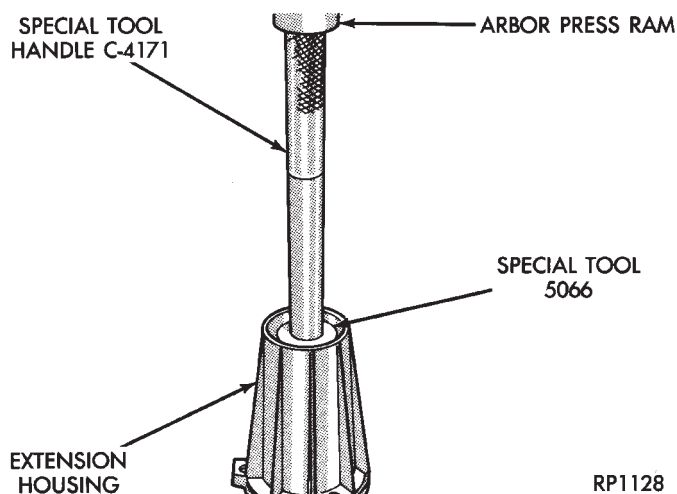

Fig. 65 Installing Extension Housing Bushing
(56) Install new extension housing bushing with Installer Tools C-4171 and 5066 (Fig. 65).
(57) Install new seal in extension housing.
(58) Apply 3 mm (1/8 in.) wide bead of Mopar gasket maker, silicone adhesive sealer, or Loctite 518 to mounting surface of extension housing.
(59) Install extension housing on case and tighten housing bolts to 41 N•m (30 ft. lbs.) torque.
(60) Install front yoke. Secure yoke with replacement seal washer and nut. Tighten nut to 149 N•m (110 ft. lbs.) torque.
(61) Install replacement gasket on vacuum switch and install switch in case.
(62) Install tighten drain plug to 47 N•m (35 ft. lbs.) torque.
(63) Install vacuum switch in case. Tighten switch to 47 N•m (35 ft. lbs.) torque.